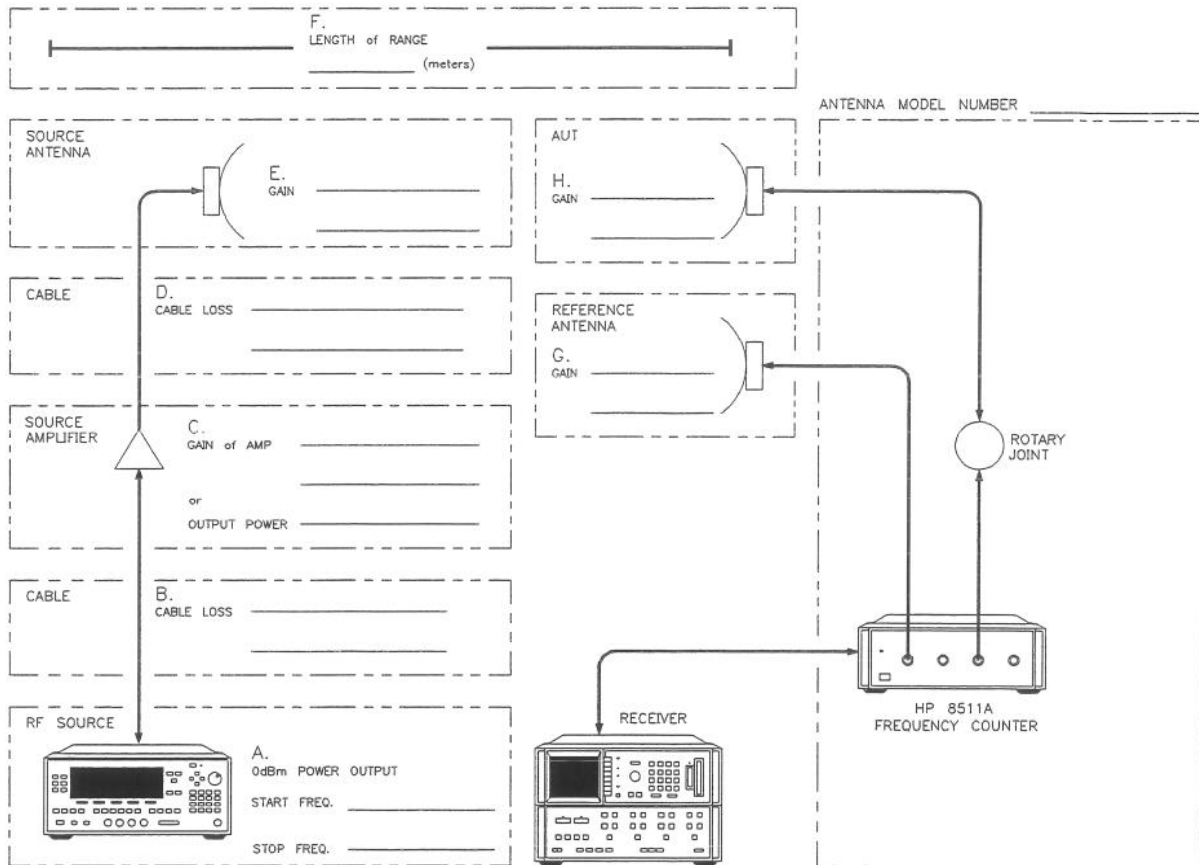

Figure A-3. Known System Gain and Loss Values (with HP 8511A/B Frequency
This method of improving the dynamic range provides the highest measurement dynamic range. Photocopy the worksheet in Figure A-3 for general use.
Figure A-3 shows attenuation and gain values required for later calculations. Read the following before using Figure A-3.
Each box in Figure A-3 has two entry blanks. For example, look at Box E, Source Antenna Gain. When making “wide” frequency range measurements, enter the antenna’s gain at the start frequency on one line, and its gain at the stop frequency on the other line. Do this for each box in Figure A-3.
- **Narrow:** There is no noticeable change in system performance between start and stop frequencies. Use only one entry blank in each box of Figure A-3.
- CW: Measurements occur only at single CW frequencies. Use only one entry blank in each box of Figure A-3.
Photocopy the dynamic range worksheet (illustration and calculations) and fill them out. Item A is located in the lower-left hand corner of Figure A-3. The other items (B through I) proceed clockwise from item A. A description of each entry box is provided after Figure A-3.